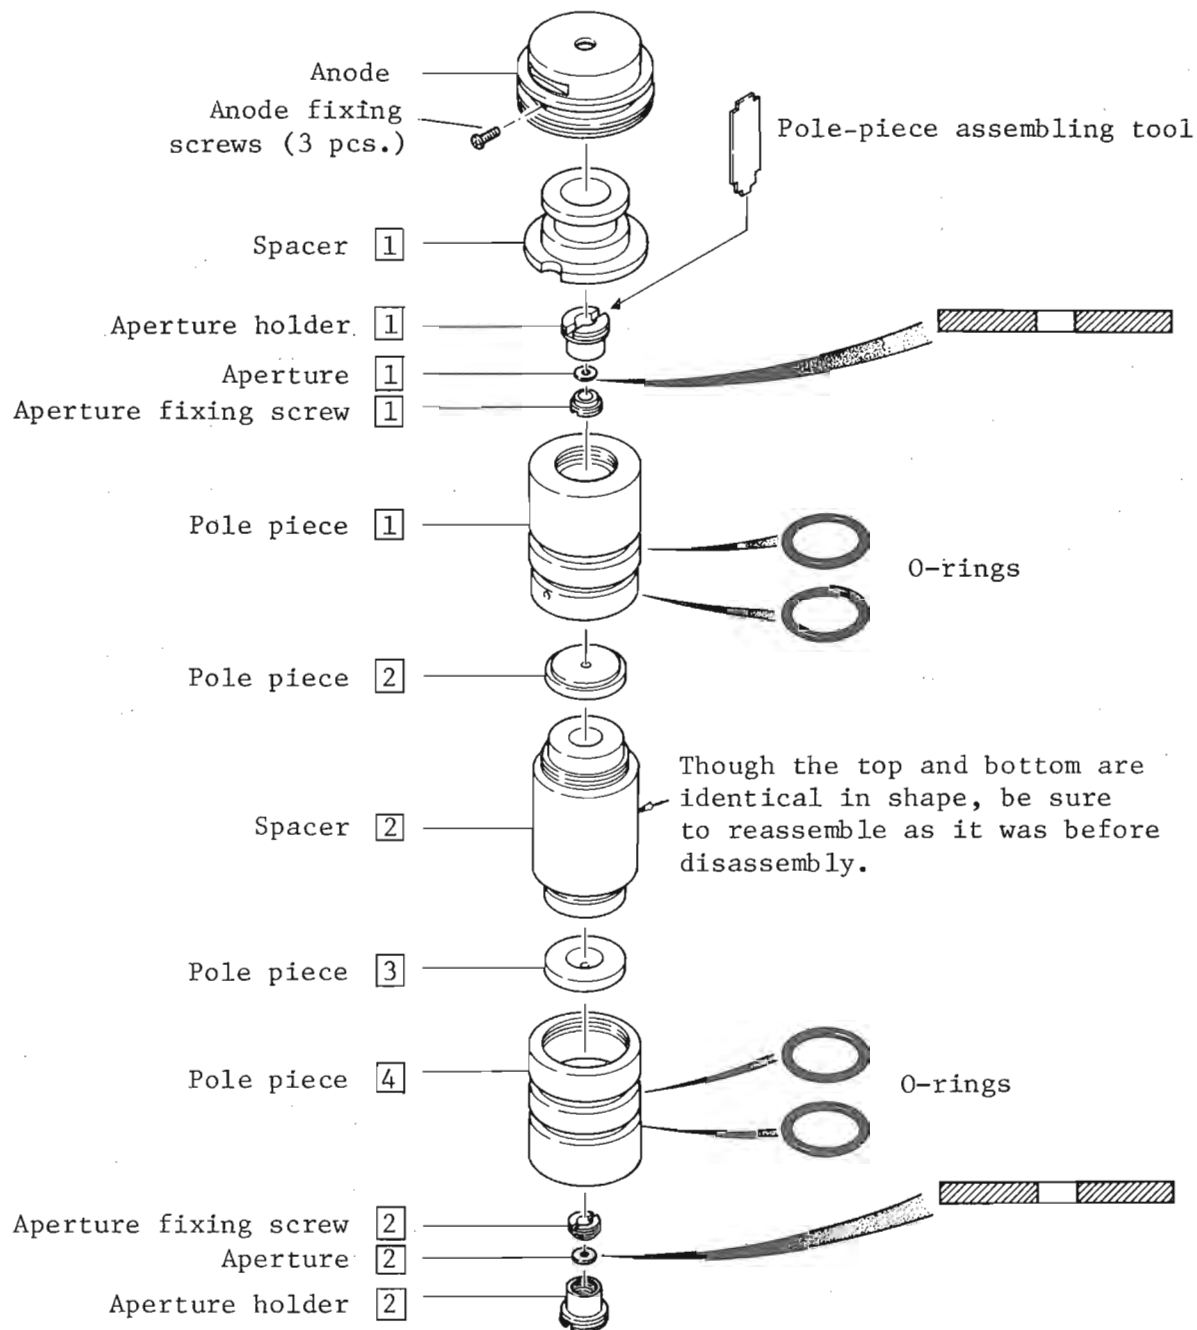

Fig. 5.6 Disassembling the condenser lens pole-piece assembly
4. Remove the anode fixing screws (3 pcs.) (Fig. 5.6).
3. Apertures [1] and [2], aperture holders [1] and [2] and aperture fixing screws [1] and [2] are identical and therefore interchangeable. However, be sure when assembling the apertures that they are orientated correctly (see Fig. 5.6).